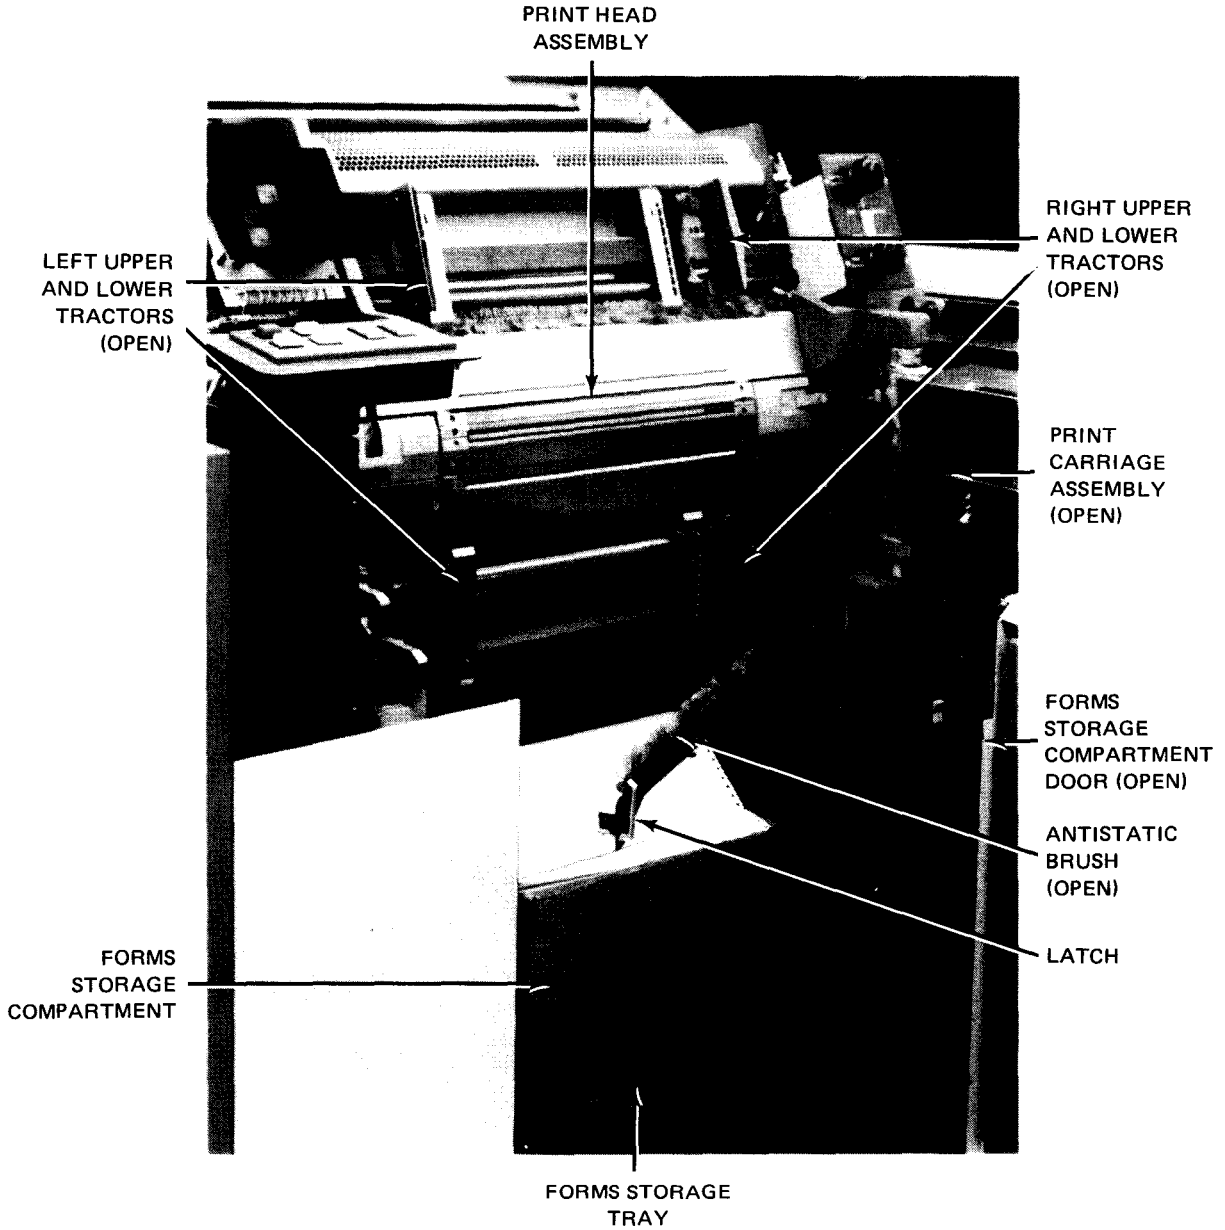

Figure 5—27. Printer Open to Receive Forms
3. Open the print carriage by lifting the latch lever and pressing in to release the latch (Figure 5—26). Swing the carriage assembly fully open.
5. Release the antistatic brush by pulling back the latch (Figure 5—27). Swing back the brush to permit access for loading forms.